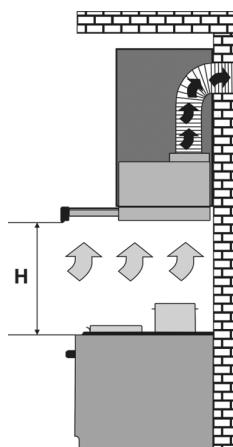

Fig. 1
5.3 Depending on the installation scheme over the cooker, the extractor hood can work in two variants (see item 1.5):
- in the mode of air extraction into the chimney of the kitchen (Fig. 1).
We remind that the height of installation of a cooker hood over the electric cookers should be at least 650mm, and above the gas one – not less than 750mm (Fig. 1).